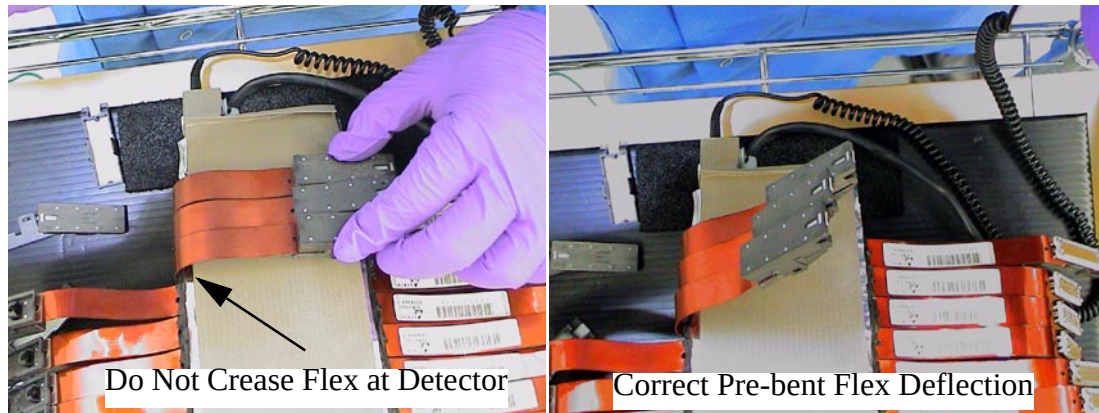

Figure 1-19 Pre-bending the 'B Flexes' for Detector Installation
- Carefully pre-bend the 'B Flexes' to ease detector installation. See Figure 1-19.